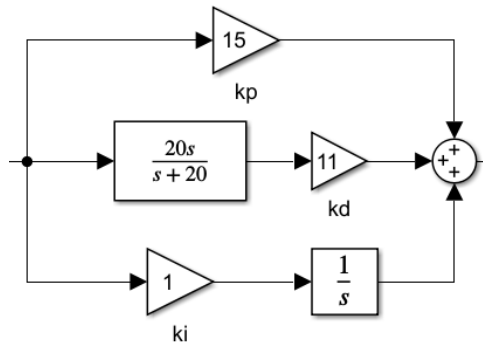

Figure 5: PID gains in a feedback loop
- The response should now approach the commanded value quickly and settle in a short time. However, even with a large proportional gain, the final position of the Aero 2 still differs from the command value by approximately 0.7 radians. To combat this steady-state error, keeping the proportional and derivative gains at the values identified in the previous step, add an integral gain k_i as well as an integrator in parallel with the other two gains as shown in Figure 5.